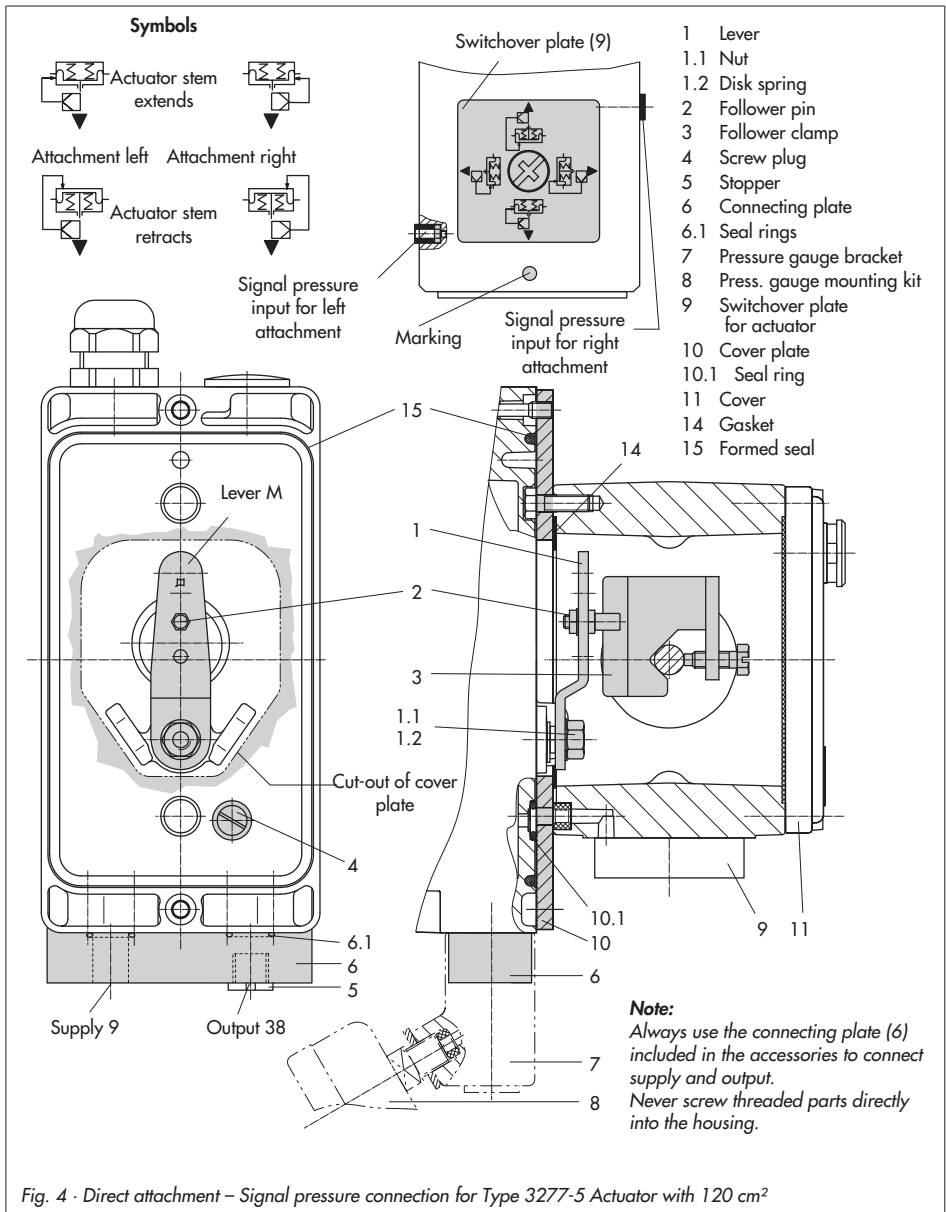

Fig. 4 · Direct attachment – Signal pressure connection for Type 3277-5 Actuator with 120 cm²
1. Mount connecting plate (6) or pressure gauge bracket (7) with pressure gauges onto the positioner, making sure both seal rings (6.1) are seated properly.
2. Remove screw plug (4) on the back of the positioner and close the signal pressure output (38) on the connecting plate (6) or on the pressure gauge bracket (7) with the stopper (5) included in the accessories.
3. Place follower clamp (3) on the actuator stem, align and screw tight so that the mounting screw is located in the groove of the actuator stem.
4. Mount cover plate (10) with narrow side of the cut-out opening (Fig. 4, on the left) pointing towards the signal pressure connection. Make sure that the bonded